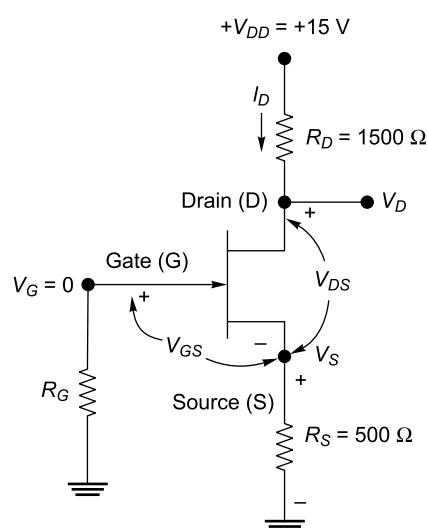

Fig. 1.86
40. Find the value of drain-to-source voltage (V_{DS}) and gate-to-source voltage (V_{GS}) for an *n*-channel JFET as shown in Fig. 1.86. Assume $I_D = 5$ mA.